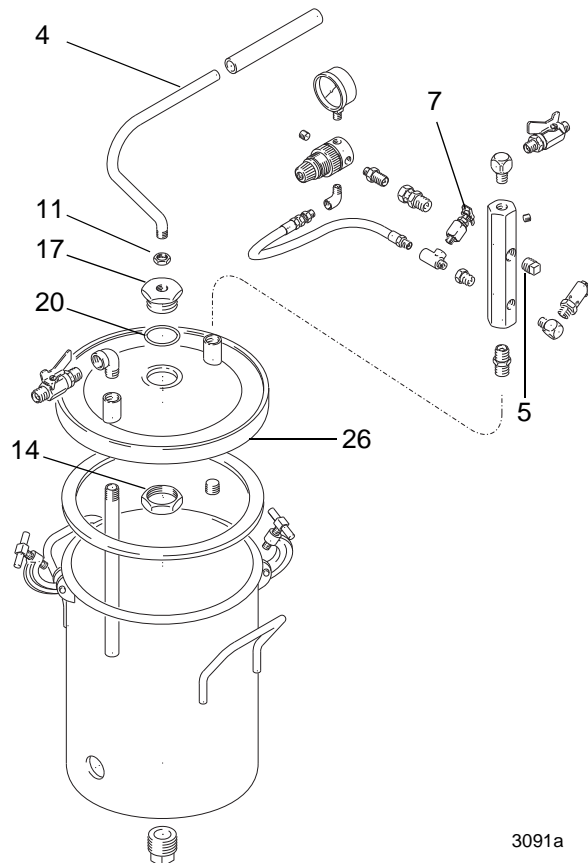

FIG. 3
2. Open the drain cock fitting (7) by turning it counter-clockwise. Refer to FIG. 3.
4. Leave the drain cock fitting (7) open until you have reinstalled the cover or fill port.
To add a second air regulator to control air to a spray gun, see **Accessories** on page 22 for Gun Air Regulator Kit. The second air regulator installs in place of pipe plug (5). See FIG. 3.
2. Remove the cover (26) from the tank. Remove the hex jam nut (14) from bottom of the cover. Remove the o-ring (20), adapter plug (17), and handle (4). Keep the hex jam nut (14). See FIG. 3.